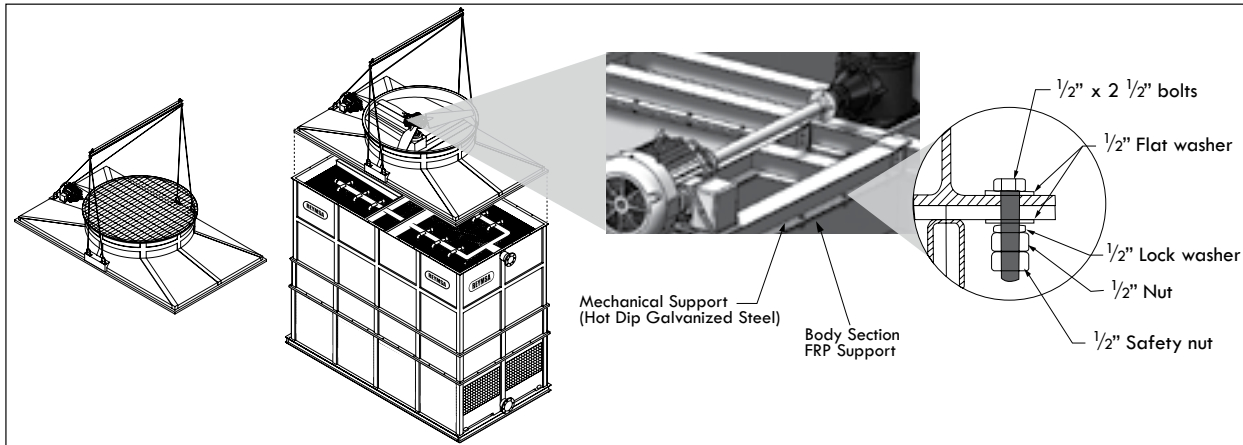

Figure A-90: Fan Deck installation of an RTGM or an RTGMTC Tower with motor installed outside the airstream.
- W. Place the fan deck section over the body of the Cooling Tower, making sure that the holes of the fan deck section and the upper body section are aligned (see figure A-90). Then proceed to secure the two sections together at the horizontal flange using the stainless steel bolt and nut sets supplied by REYMSA.
- X. After installing the fan deck section, access inside of the fan deck section and bolt down the Galvanized Steel support to the Fiberglass (FRP) support (see Figure A-90). The Galvanized Steel mechanical support is built in a "T" shaped configuration and this base must be bolted to the Fiberglass (FRP) support in the upper section on which it sets. The bolts must be installed on the full perimeter of the "T" shaped mechanical support. Access to perform this assembly inside the tower through the fan guard access door (except for 8' wide models which require removal of the fan guard).